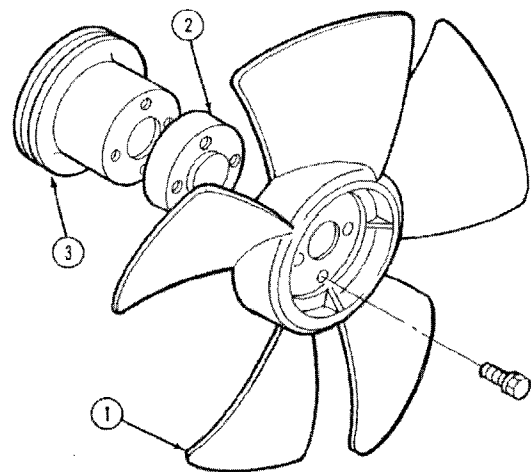

Figure 95
1. Remove the fan, fan holder, and pulley attaching bolts, Figure 95.